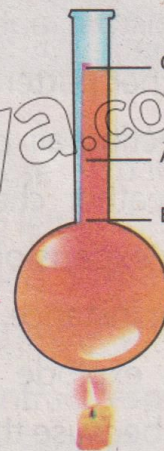

Fig. 10.3 : Thermal expansion of a liquid
A common example of thermal expansion in liquid as seen in flask (Fig 10.3). When the flask is heated, the glass expands leading to decrease in liquid level from A to B which is known as expansion of flask (AB). As the liquid heats up, it expands